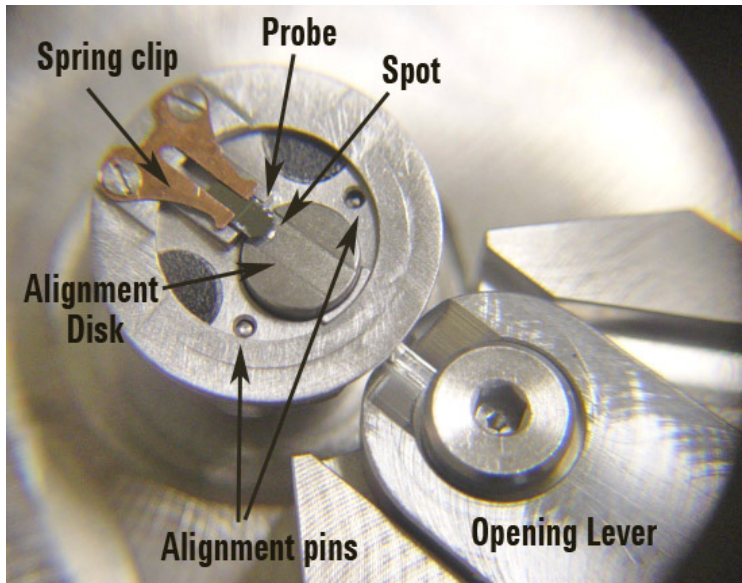

Figure 51 Two-piece nose assembly disk on fixture
- 1 Place the nose assembly disk on the assembly fixture, as shown in Figure 51. Make sure that it aligns with the center disk and two small alignment pins.
- 5 A small alignment spot on the fixture (Figure 51 on page 83) indicates the proper location for the cantilever tip. Place the probe such that the tip is close as possible to this spot.